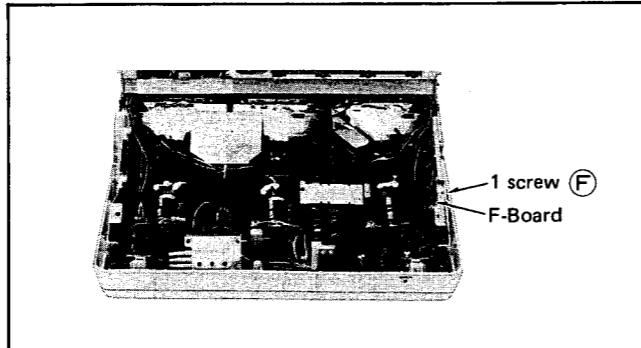

Fig. 7
- Remove a 1 screw **F** in fig. 7, then open the F"-Board.